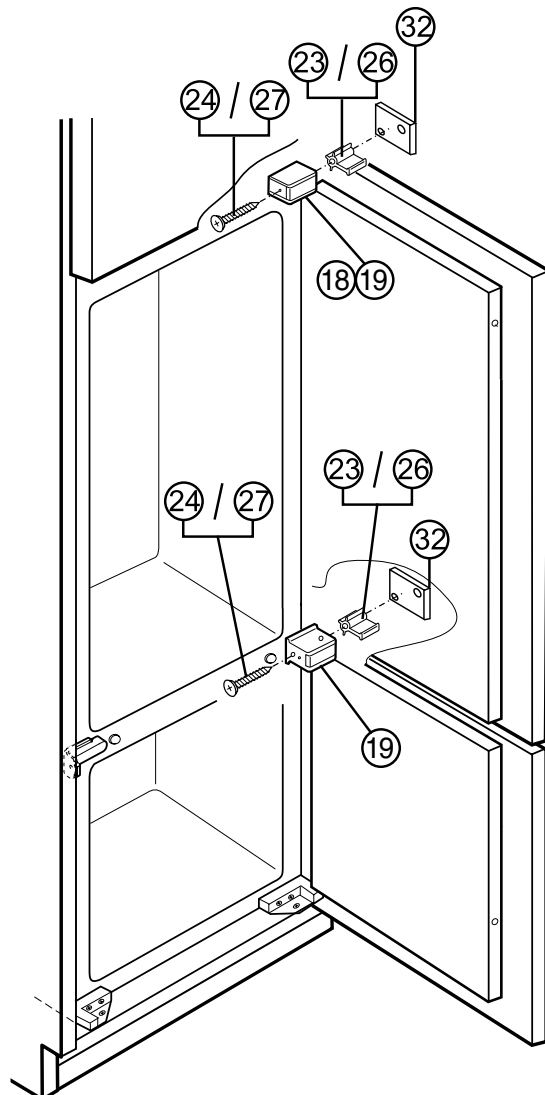

Figure 19
DO NOT install screw (Fig. 19, 24 / 27) or hinge spacer (Fig. 19, 23 / 26), at top appliance door hinge (Fig. 19, 18) if it interferes with kitchen cabinet door hinge.
- a) Place the appropriate hinge spacer (Fig. 19, 23 / 26) between the appliance door hinge (Fig. 19, 19) and the kitchen cabinet wall or cabinet spacer (Fig. 19, 32):
- For 3/4 in. (19 mm) thick cabinet walls – use small spacer (Fig. 19, 23).
- For 5/8 in. (16 mm) thick cabinet walls – use large spacer (Fig. 19, 26).
- b) Use the appropriate screws (Fig. 19, 24 / 27) according to the thickness of the kitchen cabinet walls:
- For 3/4 in. (19 mm) thick cabinet walls – use No. 5 x 75 mm screws (Fig. 19, 24).
- For 5/8 in. (16 mm) thick cabinet walls – use No. 5 x 80 mm screws (Fig. 19, 27).
- c) If you are using a cabinet spacer (Fig. 19, 32) make sure the screws go through the cabinet spacer.